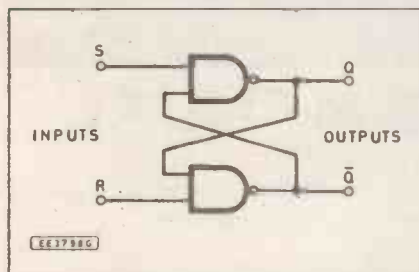

Fig. 1. A bistable multivibrator made from two NAND gates.
The circuit is built around a bistable multivibrator made up from two NAND gates - see Fig. 1. It has two inputs, Set (S) and Reset (R), and two outputs Q and  $\bar{Q}$  of which  $\bar{Q}$  is normally the inverse of Q.